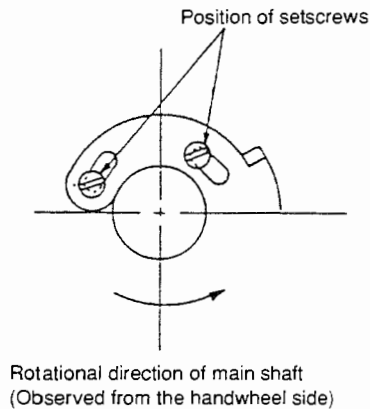

Fig. 5-17-2
Fix the leftmost end (toward counterclockwise direction) of the slit in the tension release notch closely with the outside diameter of tension release notch setscrews ① on the thread trimming cam. Then tighten the setscrews. (Fig. 5-17-2)